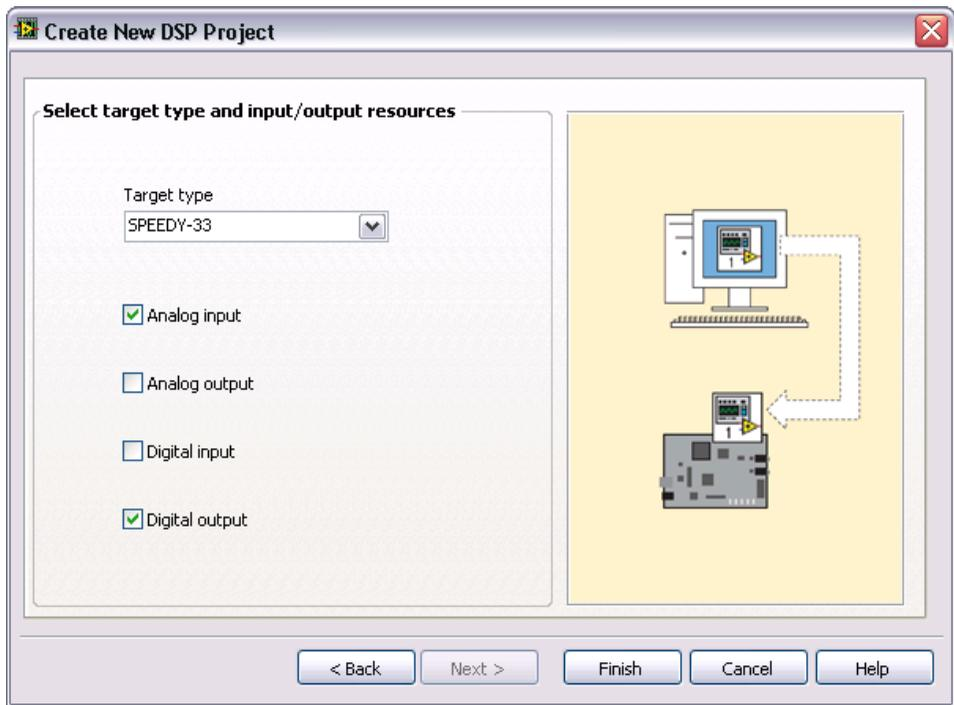

Figure 9. Specifying the DSP Target Hardware and Resources
- Verify that only the **Analog Input** and **Digital Output** checkboxes have checkmarks. By default, the wizard adds all the resources available to the target. You can remove the checkmarks from any of the input/output resources checkboxes that you do not need, as shown in Figure 9.